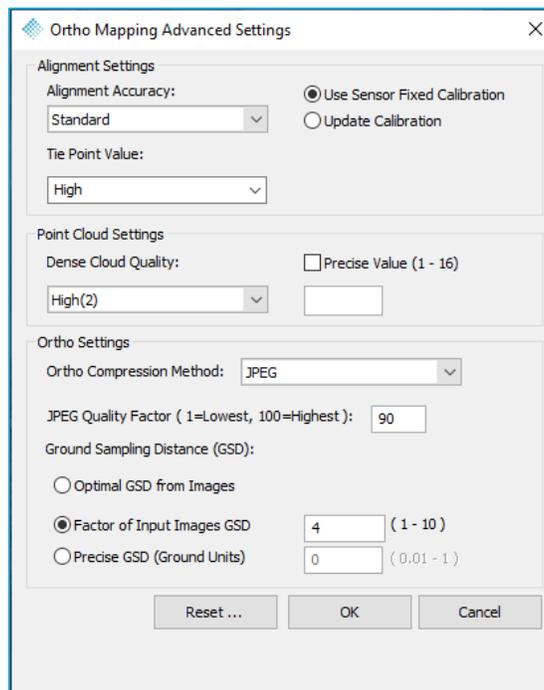

Figure 109 - Ortho Mapping Advanced Settings dialog
- e. **Advanced Settings** – Opens the Ortho Mapping Advanced Settings dialog (Figure 109/113)
The most commonly configurable Ortho Mapping settings are configured on the Ortho Mapping Advanced Settings dialog (Figure 109). The defaults are the recommended settings, though users may wish to modify for their personal preferences.